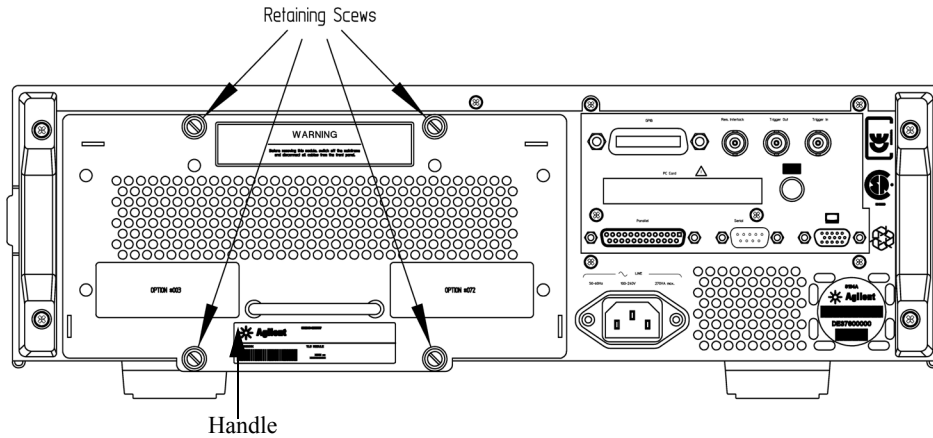

Figure 205 Back Panel of 8164B Lightwave Measurement System
- 1 Untighten the retaining screws, see Figure 205 on page -330, that secure the module in the instrument.